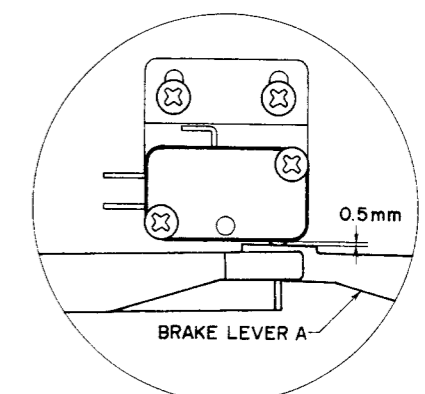

Fig. 7
- 4) As shown in Fig. 7, when the plunger is pulled, tighten Brake Solenoid Screws C and D at position at which the gap between Brake Lever A and the body of Brake Micro Switch is 0.5 mm at the narrowest place.